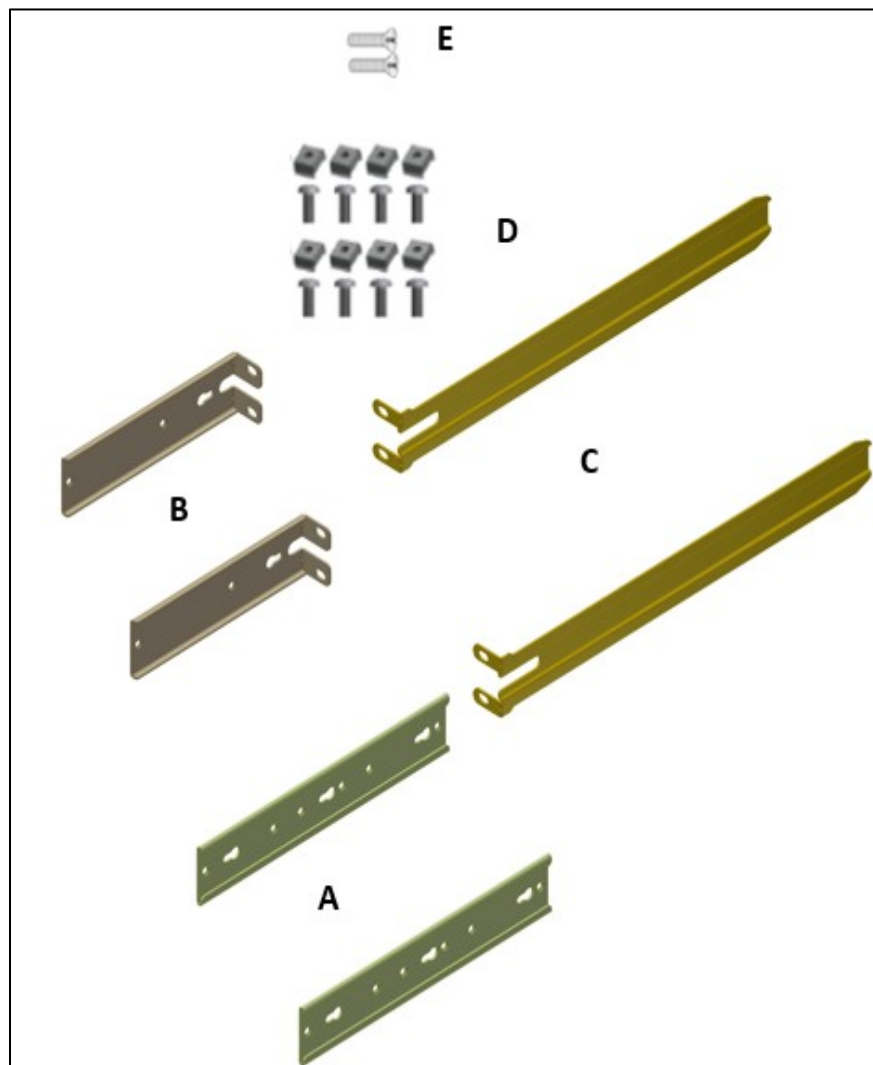

Figure 7: Rack Rail Kit Parts
- Power (rear) side inlet to connector side outlet - marked with blue power supplies/fans- FRUs' handles, as shown in Figure 7.
Refer to Figure 7: Rack Rail Kit Parts above and follow these steps: